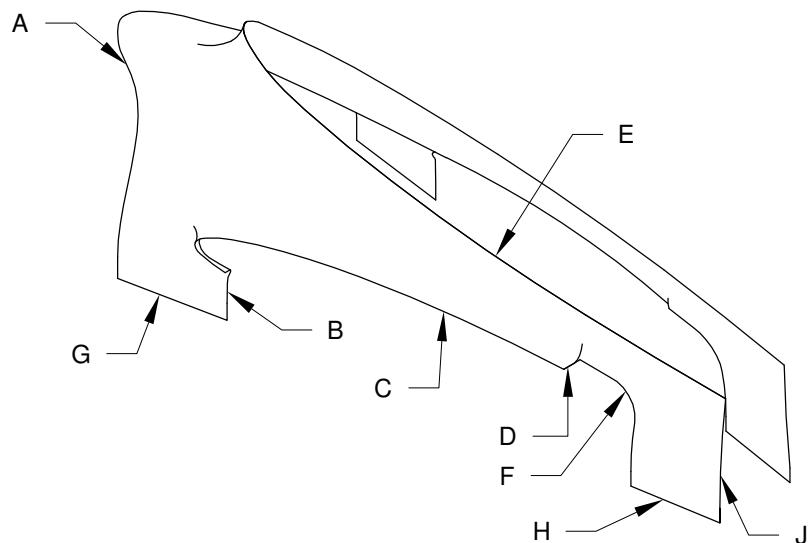

FIGURE 1: EMPENNAGE FAIRING TRIM
Step 2: Trim the F-1094B Empennage Fairing, edge A as shown in Figure 1 to meet the scribe line in the part for this edge.
Step 4: Mark the F-1094B Empennage Fairing for trimming. See Figure 1 for edge callouts. Mark edge B flush with the front edge of the F-1094A Empennage Gap Cover. Edge C is indicated by a scribe line, check that this line will provide enough screw hole edge distance and remark the line if necessary. Edge C is parallel to the inboard edge of the HS-1001 Horizontal Stabilizer Skin but different widths at the forward and aft edges. Mark edge D flush with the aft top edge of the horizontal stabilizer skin. Edge E is indicated by a scribe line, check that this line will provide enough edge distance and remark the line if necessary. Edge E should parallel the aft lower edge of the VS-1001 Vertical Stabilizer Skin and then curve upwards towards leading edge of the vertical stabilizer assembly. Mark edge F as shown in Figure 3 to provide a minimum 1/4 clearance between edge F and the WD-605-L/R Elevator Horns with the elevator assembly rotated through its full range of motion. Mark edges G and H even and parallel with the lower edge of the F-1075 Tailcone Aft Top Skin and empennage gap cover. See Figure 3. Mark edge J even with the aft edge of the F-1073 Side Skins and vertical stabilizer skin.
Step 5: Machine countersink the four holes (two per side) along edge G (see Figure 1) on each side of the aircraft, for the head of a #6 flush head screw. Working from the aft towards the front final-drill #27 and **carefully** machine countersink all holes in the empennage fairing along edges C and E, the aft most hole along edge H on the right and left sides of the aircraft and the three most forward fastener locations, for the head of a #6 flush head screw. Remove F-1094B Empennage Fairing. Trim away excess material.